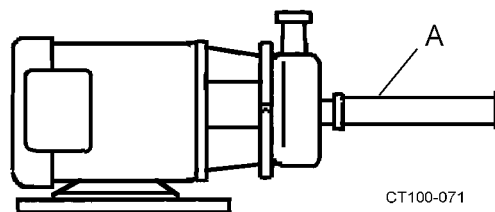

Figure 2 - Straight Pipe Length
- Maintain a straight length of pipe (Figure 2, item A) at least 8 diameters long at the pump inlet.
- The pump casing may be rotated with the discharge connection pointing in any direction. The best pump performance will be with the outlet up, to the left or positions in between; these positions insure a flooded casing and prevent problems due to air in the system. (Figure 2).